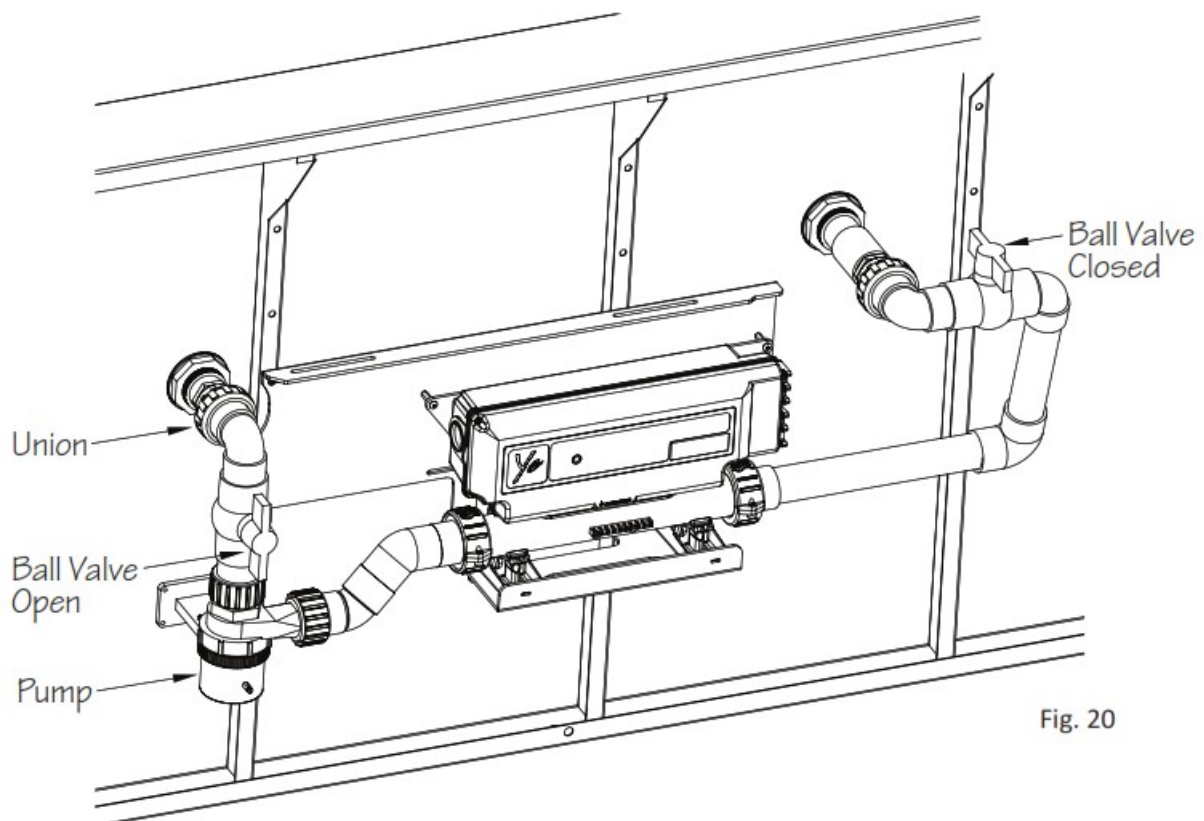

Fig. 20
3. Prior to completing this step, cover the pump with a towel to prevent it from getting wet. Partially crack the Union open that is at the top of the pre-plumbed assembly above the pump (Fig. 20). This will allow any air trapped in the plumbing to escape. Once all air has been released, tighten the Union, open the Ball Valve, and re-supply power to the equipment. Allow up to 5 minutes for the controller to fully re-boot.